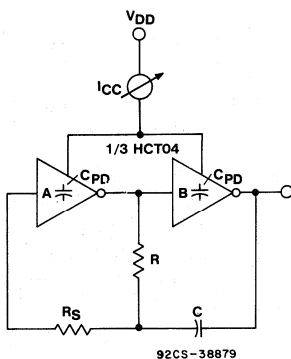

Fig. 7 - RC oscillator circuit.
One of the major advantages of the CMOS technology and, hence, QMOS ICs, is the low power dissipation. The power consumed by the RC oscillator of Fig. 7, using the HCT04 is:
C_{PD} is a capacitive value used to represent internal inverter power consumption. C_{PD} is rated at 36 pF on the HC/HCT04 Data Sheet. The C in equation (5) is the RC oscillator capacitance seen as a load that is shared by inverters A and B of Fig. 7.